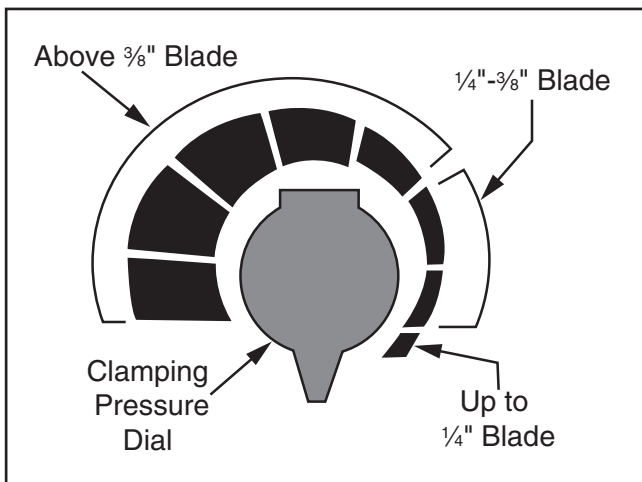

Figure 47. Blade clamping settings.
- Use the illustration in **Figure 47** and set the correct clamping pressure setting for width of the blade.